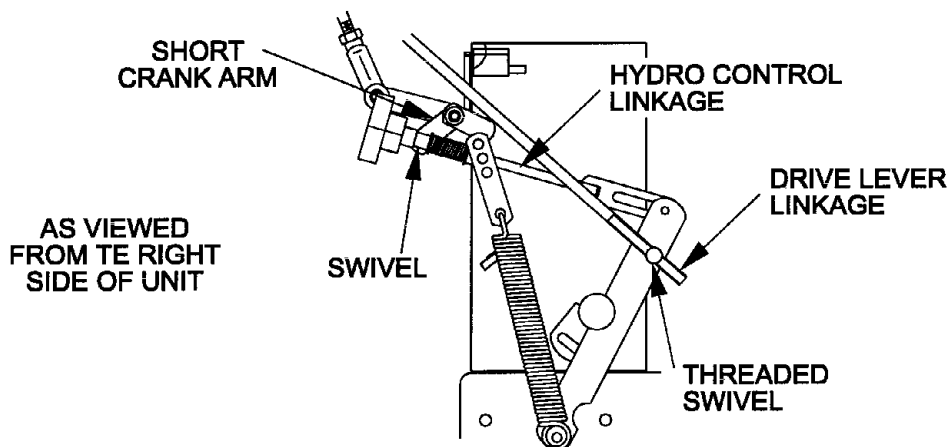
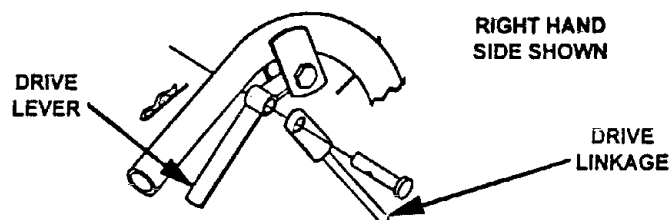

FIG. 6
FIG 7
- 3.12 Thread each drive linkage into the threaded swivel. (See Figure 6). Connect the upper end of each drive linkage to the drive levers. Fasten with a long clevis pin and cotter pin from the bolt bag. Be sure the clevis pin is first inserted through the drive linkage and the through the drive lever from the outside before installing the hairpin cotter (See Figure 7).